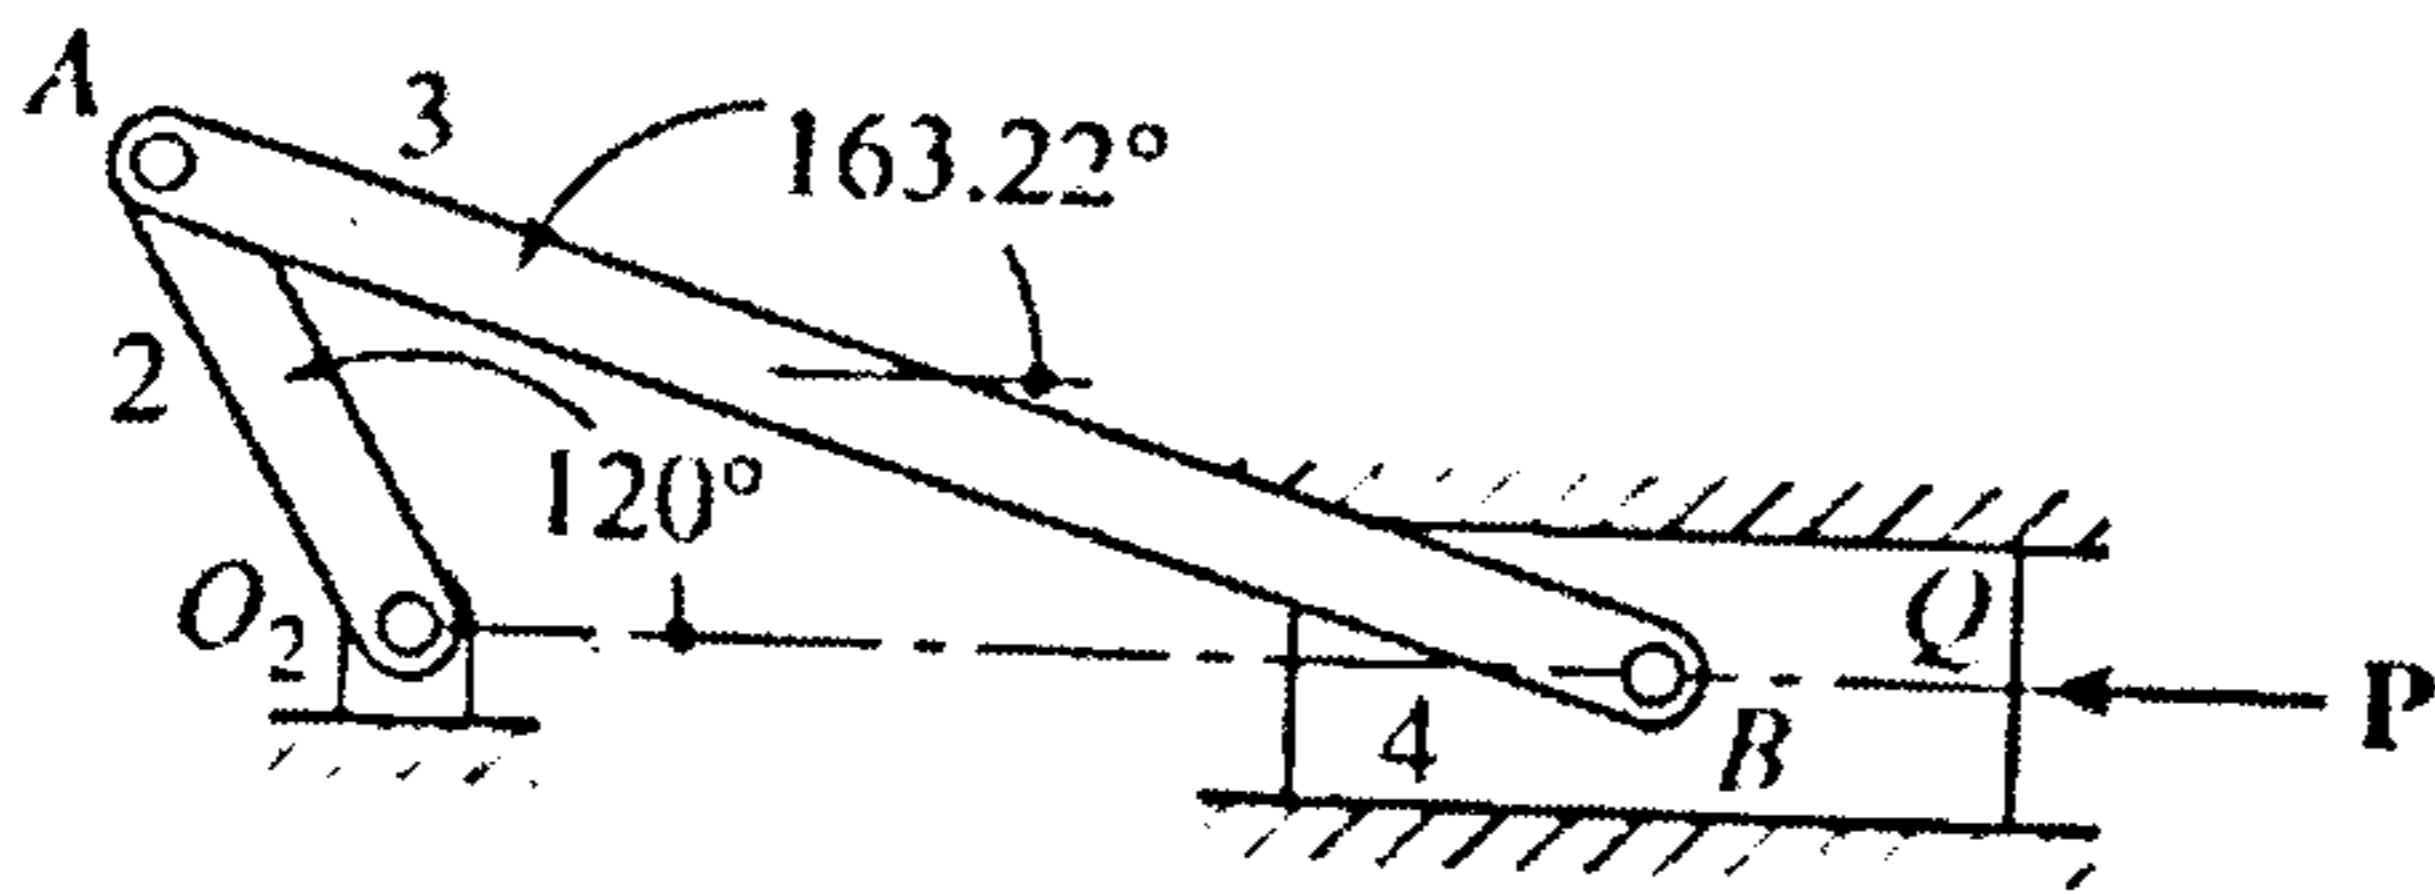

Figure- 2
7. The slider-crank mechanism of Figure-2 has an external load  $P= 445 \text{ N}$  acting horizontally at point Q on link 4. Determine the torque that must be applied to link 2 to hold the mechanism in static equilibrium.